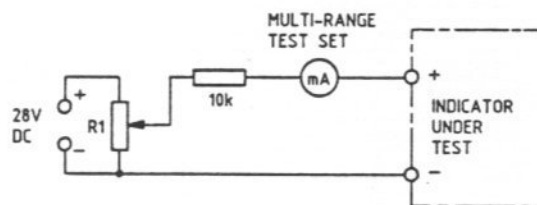

Fig 3 Test circuit
- 6.3 Connect the indicator into the test circuit shown in Fig 3.
6 Connect the indicator to the test circuit (Chap 3-2, Fig 3). Mount the indicator with the dial upright and in a vertical plane.